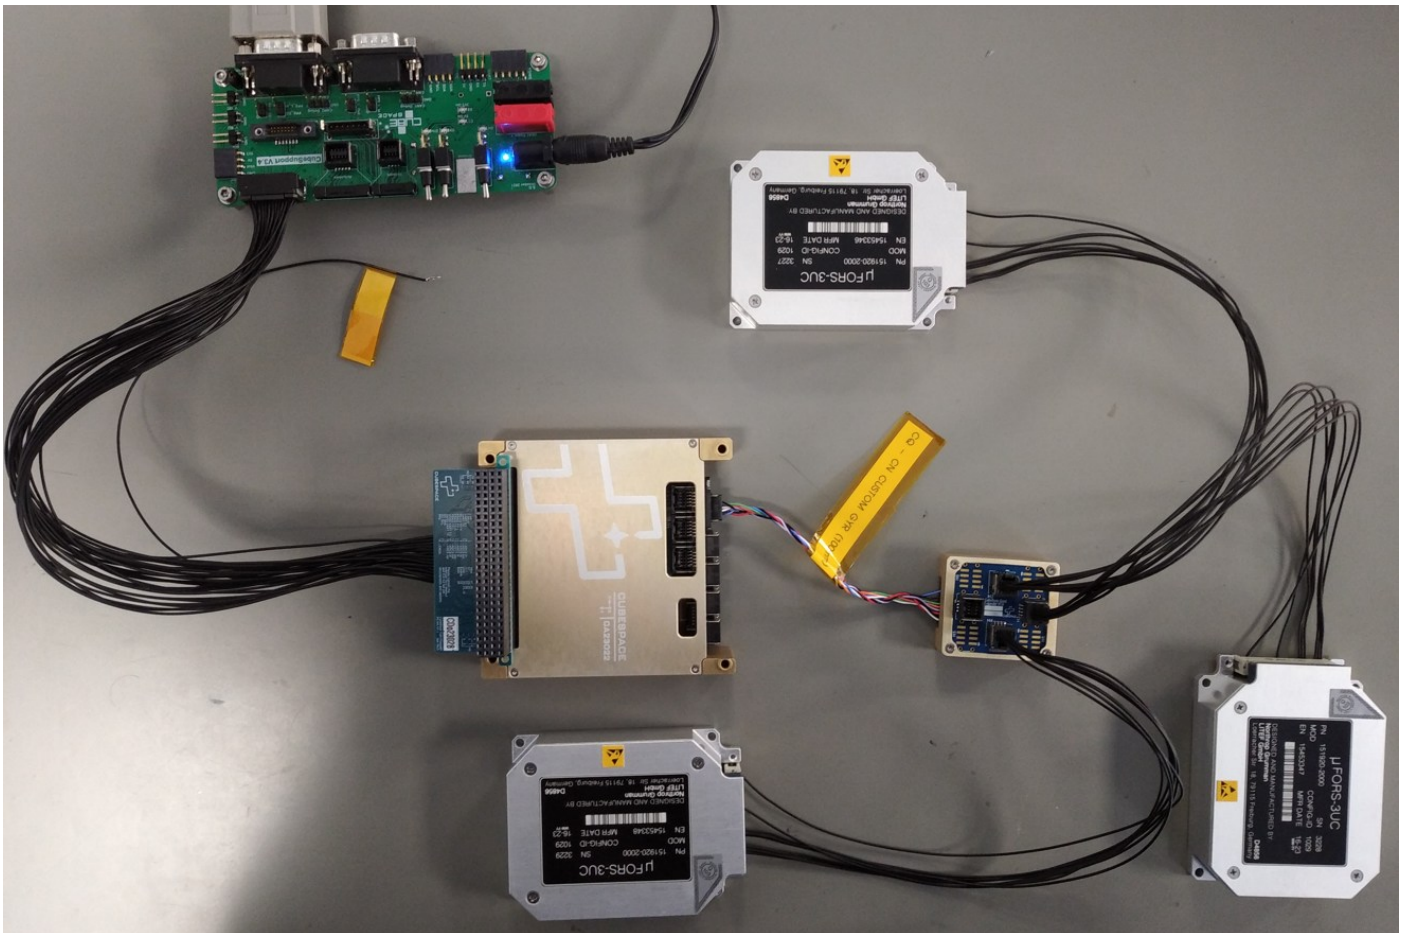

Figure 76: Three uFORS Gyros connected to the CubeADCS via CubeNode Quad
Due to the limited amount of sensor and actuator ports of the CubeADCS, the uFORS Gyros are powered and operated via a CubeNode Quad. Each external fibre-optic gyro measures one of the X, Y, or Z axes, and three of these are plugged into the CubeNode Quad, which in turn is plugged into the CubeADCS. Figure 76 shows this arrangement.
Note in Figure 76 that the three gyros are connected to the CubeNode Quad ports labelled H2 (X-Axis, Port 2), H3 (Y-Axis, Port 3), and H4 (Z-Axis, Port 4). This configuration is currently hardcoded in the CubeNode Quad firmware. If a client wishes to change this arrangement, please contact CubeSpace.
- 9) Proceed with performing the remaining connections between the CubeNode(s) and the third-party devices, as shown in Figure 76.